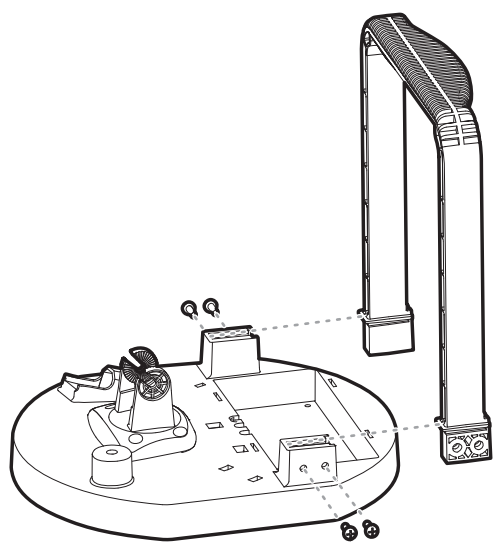

Figure 4
4. Install the handle onto the base, so that the curved part of the handle faces towards the back of the base, towards the battery well. Use the four included #8-32 x 7/16" (11 mm) screws, two on each side, to attach the handle to the base (see Figures 4 and 5). **Hand tighten only!**